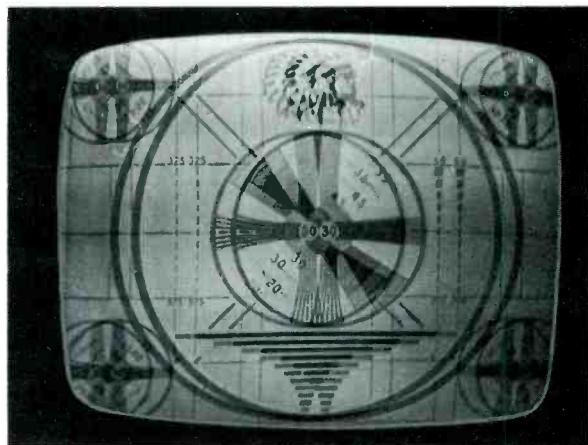

Fig. 1 A ghost caused by sync trouble.
■ Many types of ghosts are encountered in practical service situations. Experienced technicians know that the cause of a ghost display might not be immediately apparent. For example, the double image illustrated in Fig. 1 could be caused by multipath reception, but actually was the result of instability and alternate locking in the horizontal-AFC/oscillator section. In this case, the possibility of multipath reception was quickly ruled out by switching the receiver to various active channels. Because the same trouble symptom appeared on each channel, it was concluded that the trouble could not have been caused by multipath reception.